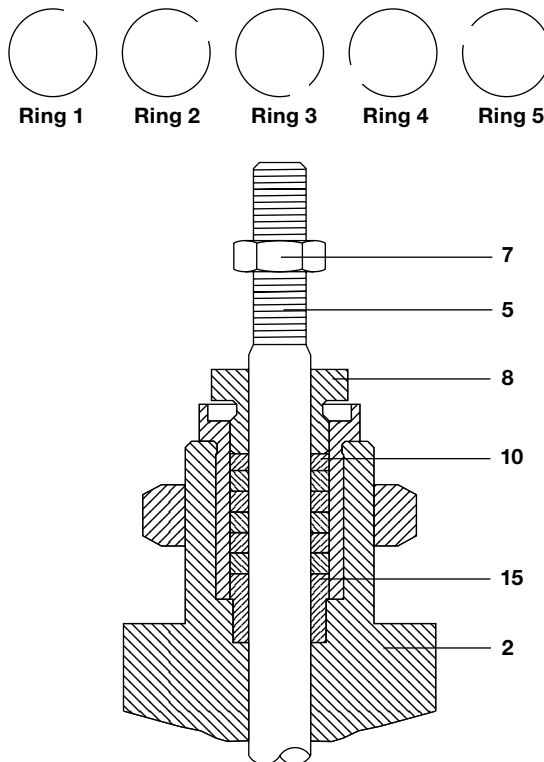

Fig. 3
- Fit the new stem seal set (**10 + 15**) see Section 4.3, Figure 3 as described in Section 3.1, ensuring that the valve stem (**5**) moves freely after assembly.